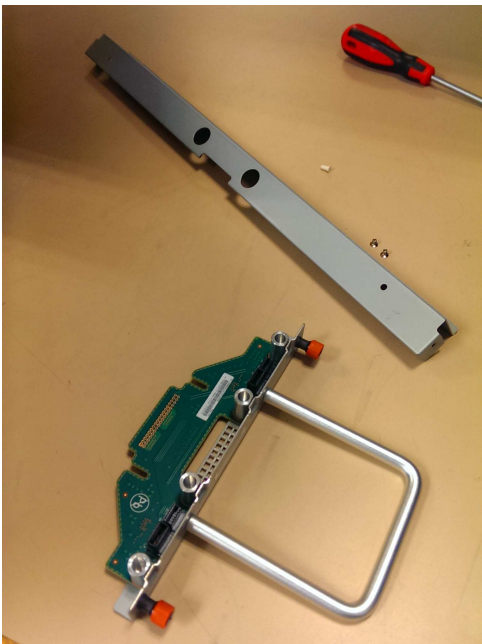

Figure 73. FIB parts for the chassis
1. Assemble the new FIB, cover, and the cover screws (shown in Figure 73) in a safe location.